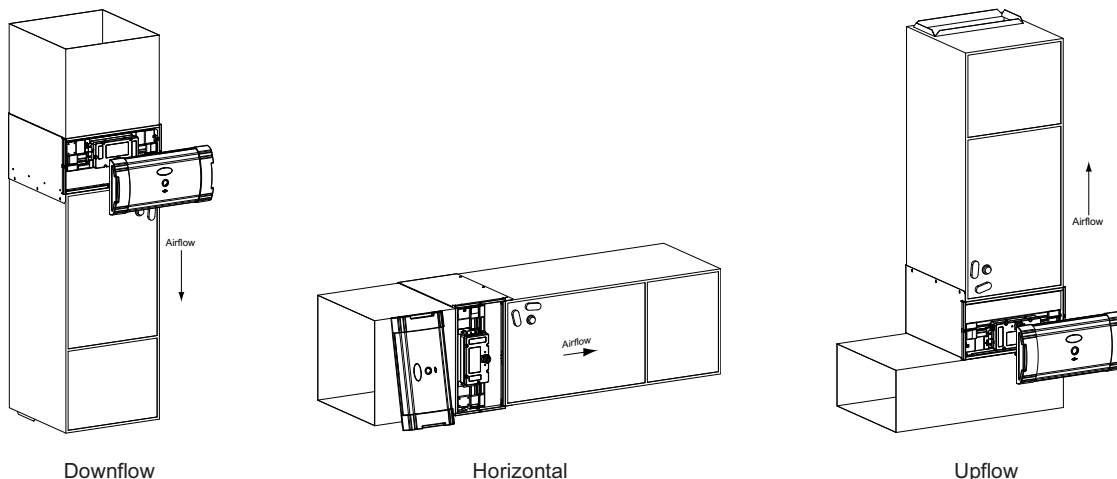

Fig. 4 - Infinity Air Purifier Cabinet Orientation
- Identify a mounting orientation for the Infinity Air Purifier in the return air duct (see Fig. 4).
- Position the cabinet between the fan coil and return air duct (see Fig. 4 and 5). A transition duct may be required.